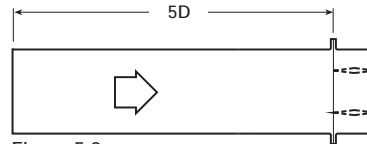
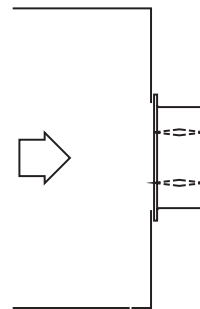

Figure 5.2
Figure 5.5
**Figure 5.2** Illustrates a ducted damper exhausting air into an open area. This configuration has a lower pressure drop than Figure 5.5 because entrance losses are minimized by a straight duct run upstream of the damper.
**Figure 5.5** Illustrates a plenum mounted damper. This configuration has the highest pressure drop because of extremely high entrance and exit losses due to the sudden changes of area in the system.
The Damper Manufacturers submittal data shall certify all air performance pressure drop data is licensed in accordance with the AMCA Certified Ratings Program for Test Figures 5.2, 5.3 and 5.5. Damper air performance data shall be developed in accordance with the latest edition of AMCA Standard 500-D. Dampers shall be labeled with the AMCA Air Performance Seal.